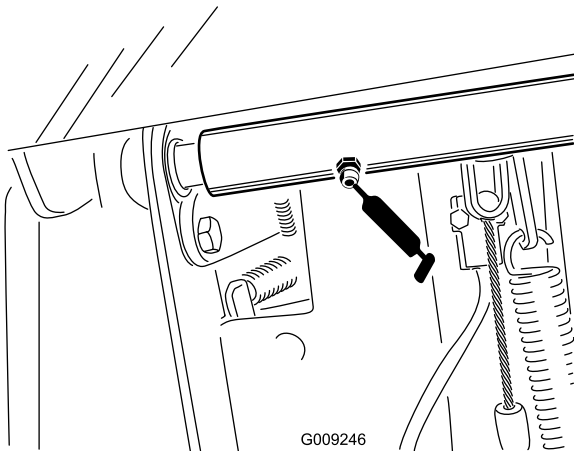

Figure 36
- 2 brake pedal pivot-shaft bearings (Figure 36)